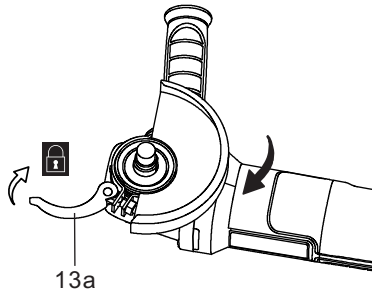

Fig. 9
2. Rotate the guard to required position (Fig. 9).